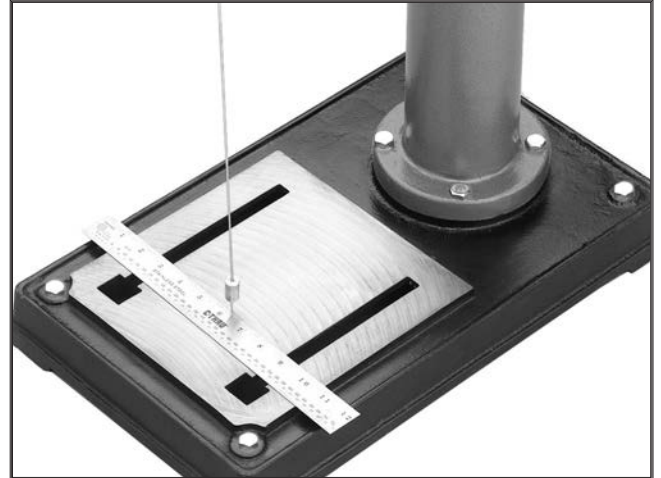

Figure 12. Aligning headstock with base.
3. Suspend a plum bob from the center of the headstock spindle so it is over the tape/ruler as shown in **Figure 12**.